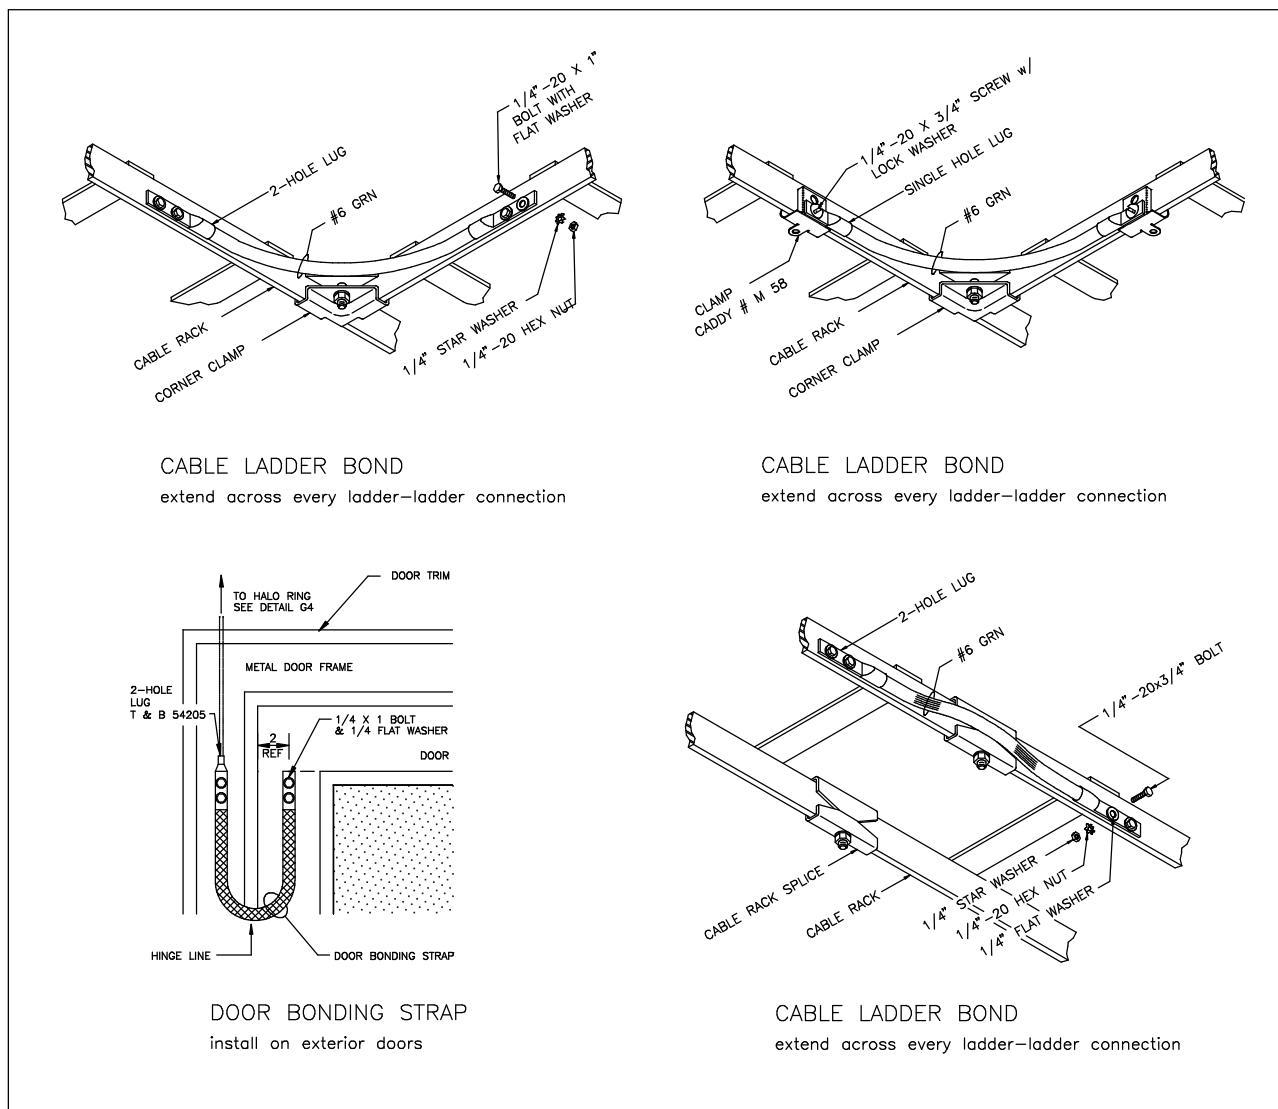

Figure 4 - Bonding Cable Trays and Metal Doors
- 7.4 Cable trays, ladders, and metal doors shall be bonded to the internal ground ring as illustrated in Figure 4.